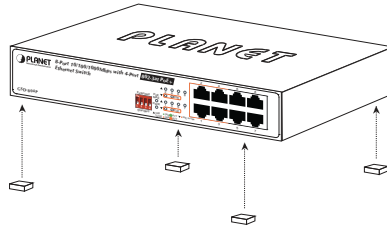

Figure 3-1: Attaching the Rubber Feet to the GSD-804P
Step 1: Attach the rubber feet to the recessed areas on the bottom of the GSD-804P, as shown in Figure 3-1.